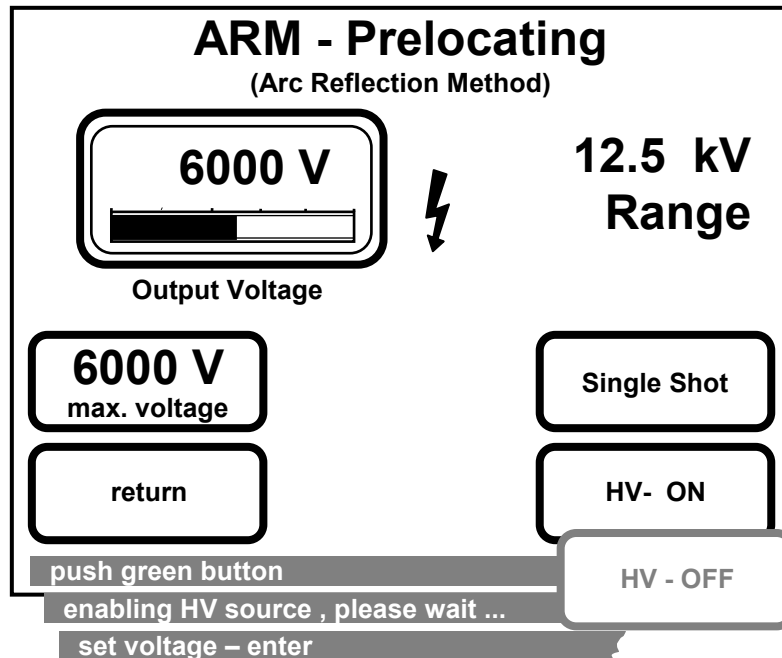

Fig. 13: Menu Arc Reflection Method ARM
3. After selecting the desired voltage range the above menu (Fig. 13: Menu Arc Reflection Method ARM) appears.